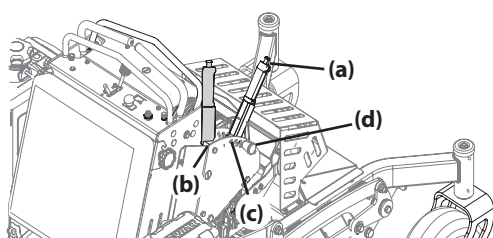

Figure 1
2. Use the deck lift handle (a) to raise the deck to the transport lock position (b) (highest adjustment setting) and insert the clevis pin (c) into the highest mowing setting (d) to secure the deck lift handle in place. See Figure 1.